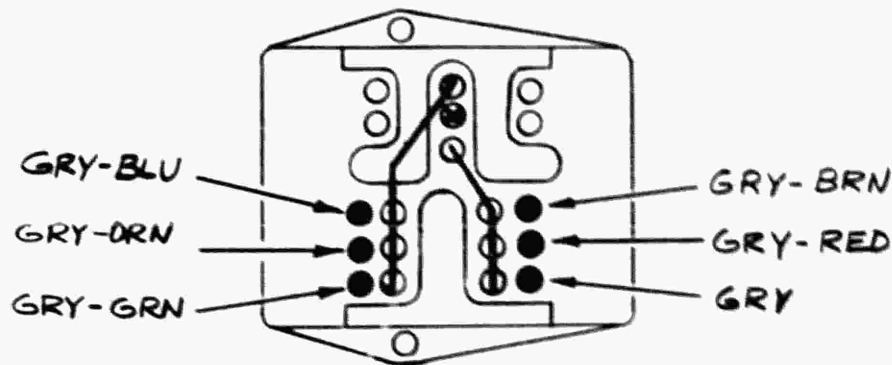

Fig. 1
- ( ) 16. Insert the six wires with connectors into the line voltage selector block. See Fig. 1 for location. Connectors are seated properly when they are nearly flush with the back of the block.